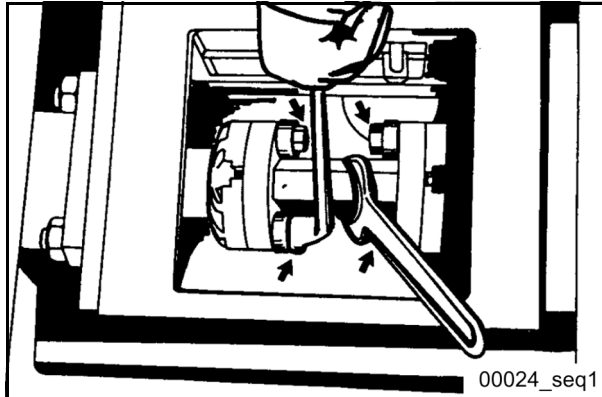

Fig. 188
- Loosen the fastening screws on the distance piece and remove them. While doing so, hold the distance piece on the continuous hexagon (**Fig. 188**).